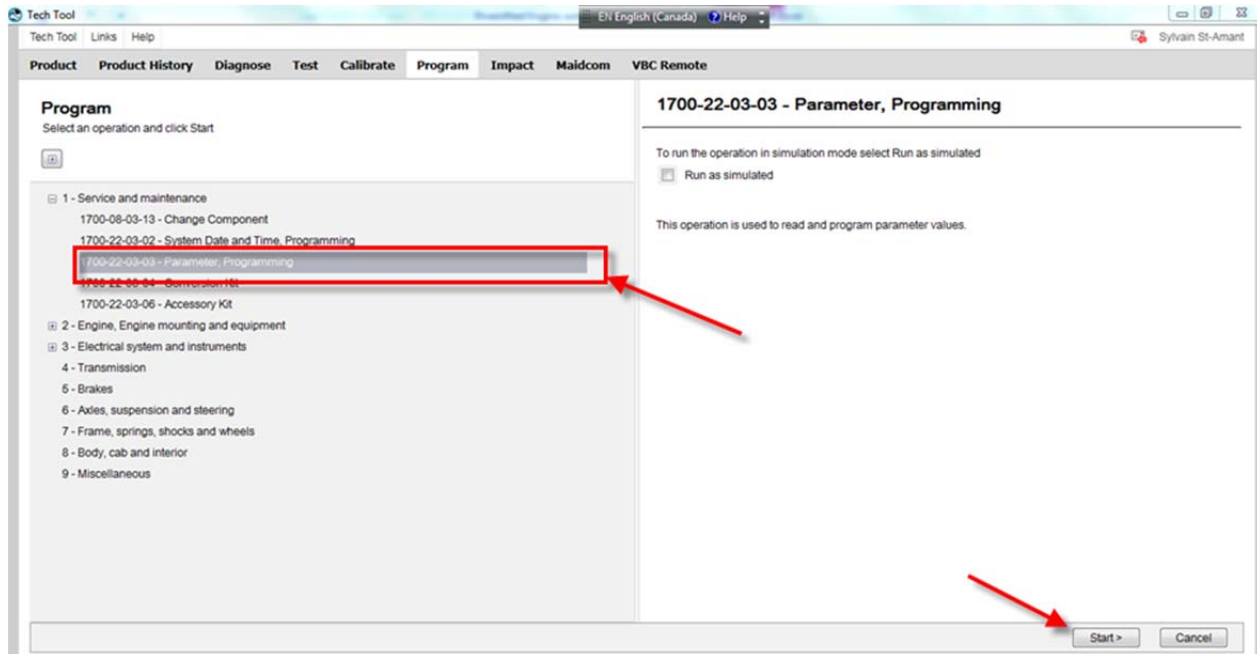

FIGURE 29
1. In Premium TechTool, select PROGRAM tab. In PROGRAM tab, select operation 1700-22-03-03 Parameter, programming then click START (FIGURE 29).